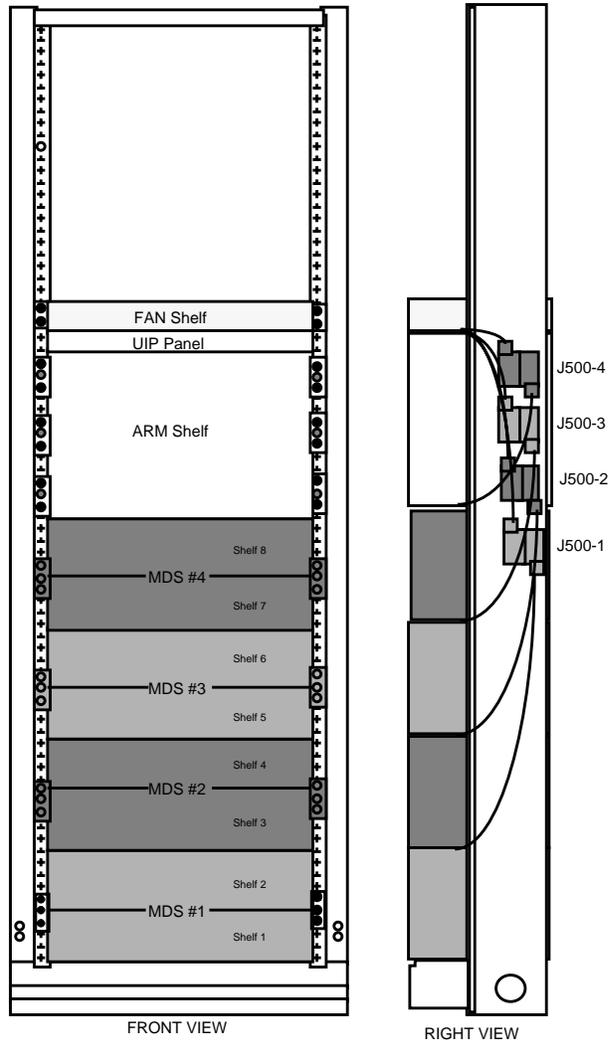

Figure 3-16. PCM J500() Connections
- Step 2:* Position the cables in the right side duct in accordance with Figure 3-16.